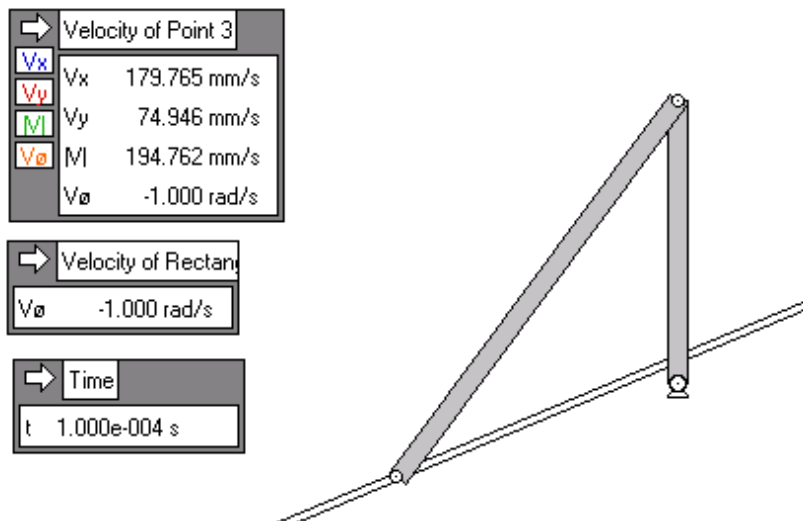

Figure 8
6. Click on the Run button to get the results similar to the Figure 8.